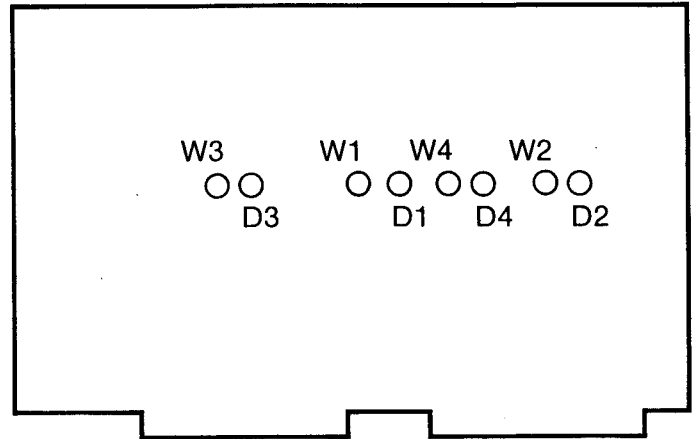

Figure 5.9 Adjustments
4. Repeat procedure for $\emptyset 2$, $\emptyset 3$, and $\emptyset 4$. See Figure 5.9 and Table 5.2.